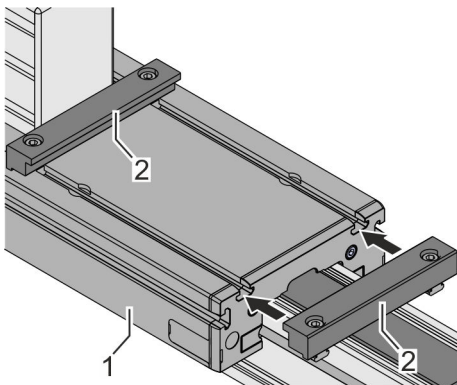

Fig. 25: Inserting clamping bars
2. ➤ Insert clamping bars (Fig. 25/2) into the slots of the guide carriage (Fig. 25/1) using the slot stones.